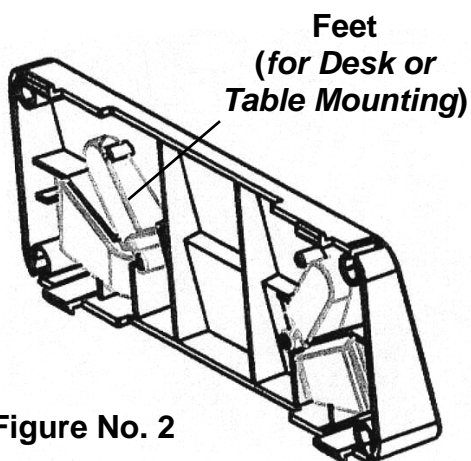

Figure No. 2
7. Referring to Figure No. 2, make sure the four (4) feet of Wall Bracket "A" are placed in the bracket.